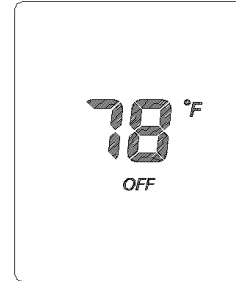

Figure 23
1. Press the ON/OFF button, the remote only display the room temperature and off mark. (See Figure 23)